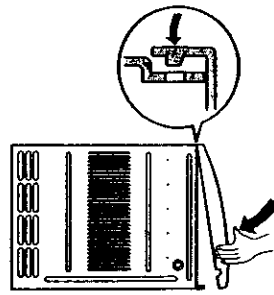

Figure 113
- Hook upper tabs of front grille into slots on the cabinet top. (See Figure 113)
- Push front grille's tips toward the cabinet in order to snap side tabs into the cabinet. (See Figure 113)